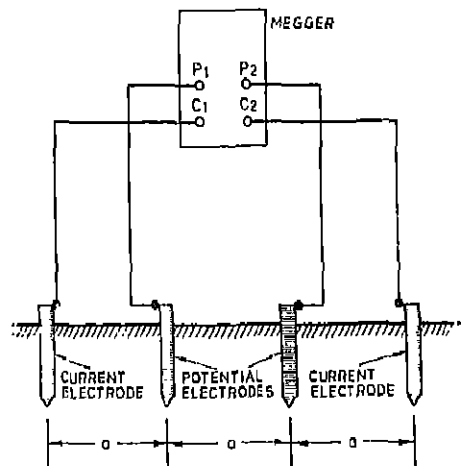

Fig. 22.1 Circuit diagram for Measurement for Earth Resistivity
The earth resistivity is usually measured with the help of an earth resistivity meter or a megger. The method employed can be the four-point method in which four electrodes are driven into the ground at an equal distance of 'a' cm. as shown in Fig 22.1. The depth of the driven electrodes must not exceed one-twentieth of
- (ii) Make the connections as shown in Fig 22.1